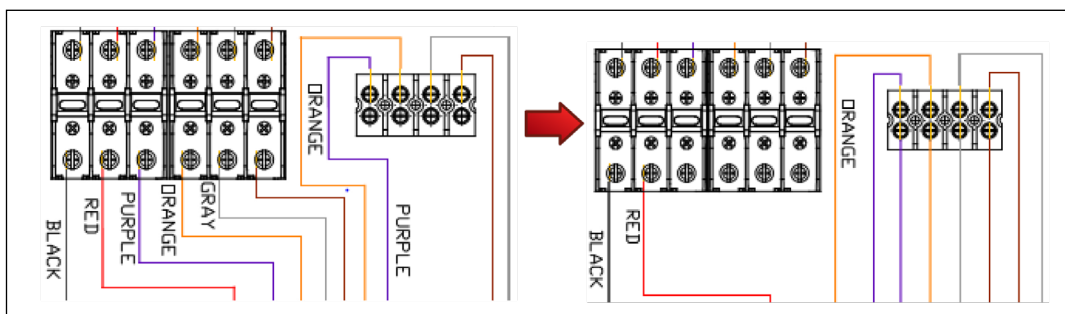

Figure 6 - Converting from Simultaneous to Non-Simultaneous Operation
5. Tighten screws to securely hold wires. Be sure not to place wire insulation under screws. See Figure 6. See Figures 8 - 11 for optional configuration wiring details.